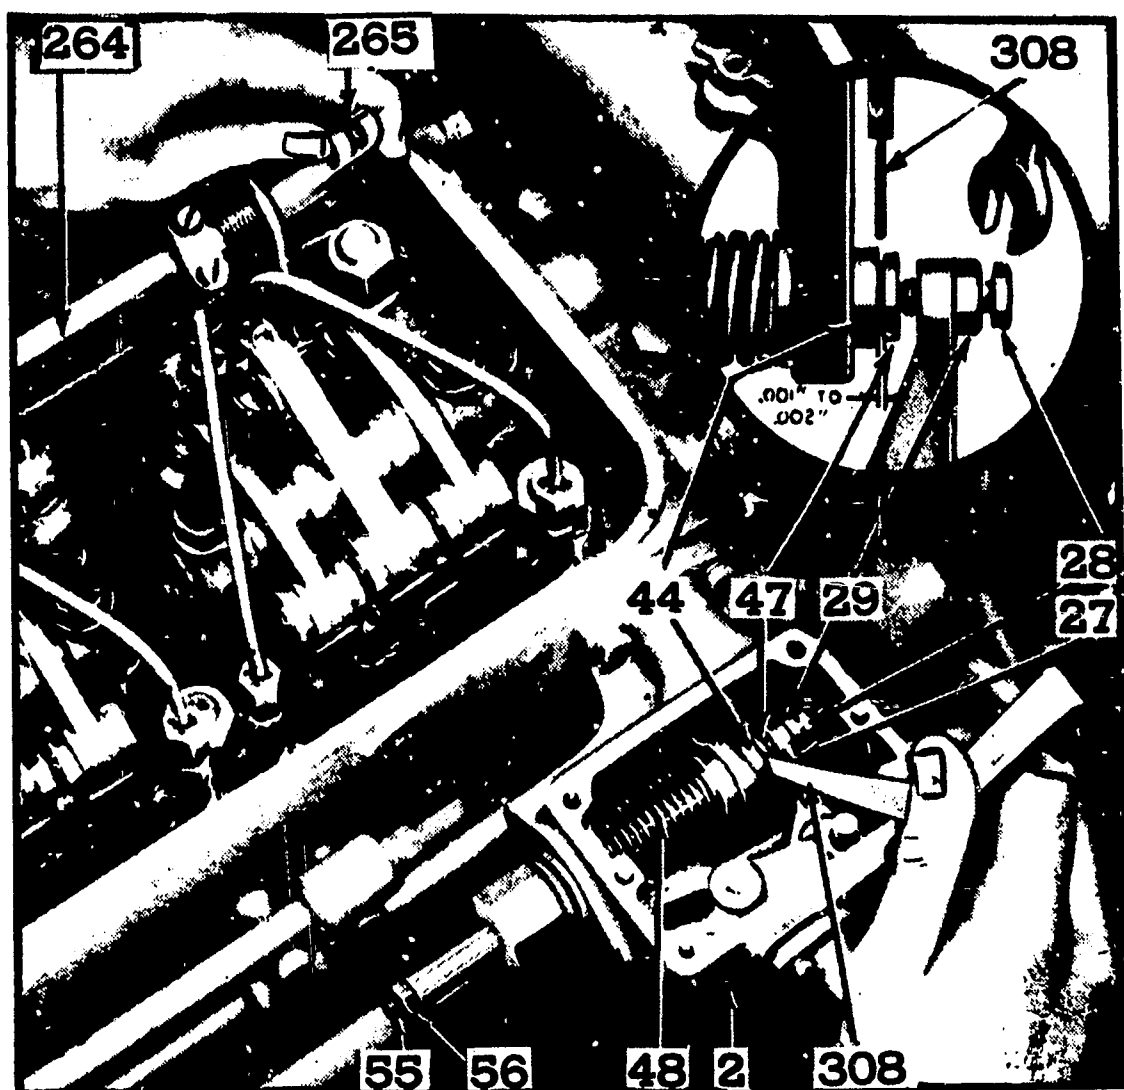

Fig. 4 Adjusting governor gap.
2. Start the engine. Then loosen the idle speed adjusting screw lock nut (56); see Figure 4. Turn the idle speed adjusting screw (55) to obtain the recommended idle speed. The recommended idle speed is 450 rpm for double weight governors, but may vary with special engine applications.